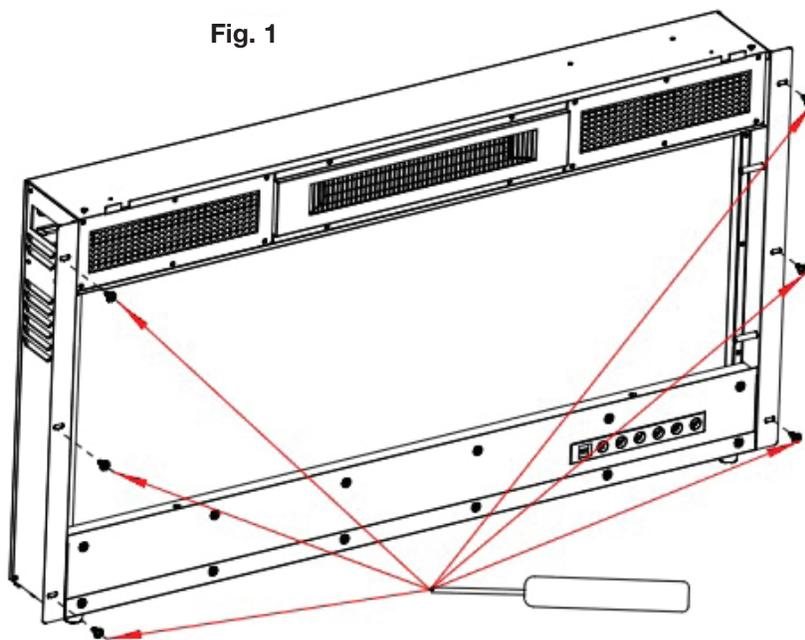

Fig. 1
- Use 6 screws (supplied) to lock the appliance into the wall with the existing 2 side flanges (**Fig. 1**).